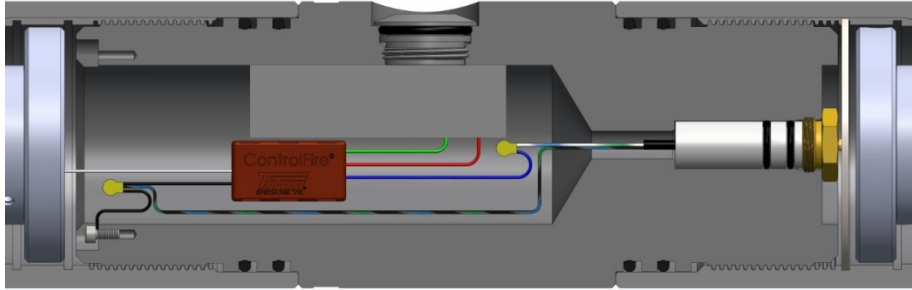

Figure 56
- **Installing ControlFire® Switch into Tandem Sub:** Connect the white wire from the ControlFire® switch body to the live wire coming from the gun above. Connect the ground wire(s) from both the gun above and sub to the black wire coming from the ControlFire® switch body. Connect the blue wire from the ControlFire® switch body to the white wire from the 9400-EBTW installed in the tandem sub. Figure 56 shows the proper wiring for the ControlFire® switch in a tandem sub. The green and red wires